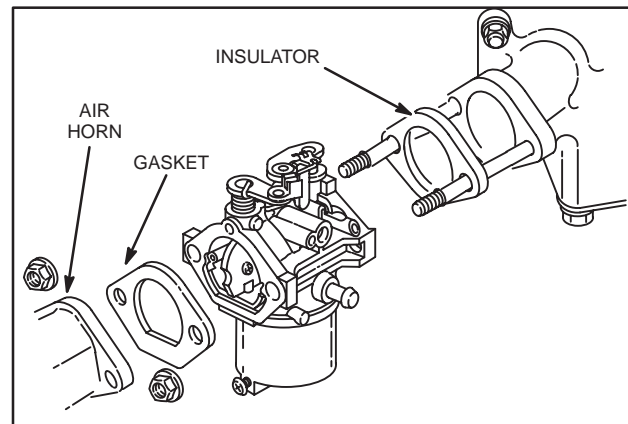

Fig. 21 – Install Carburetor
1. Assemble insulator with gaskets, carburetor and air horn with gasket to intake manifold, Fig. 21.